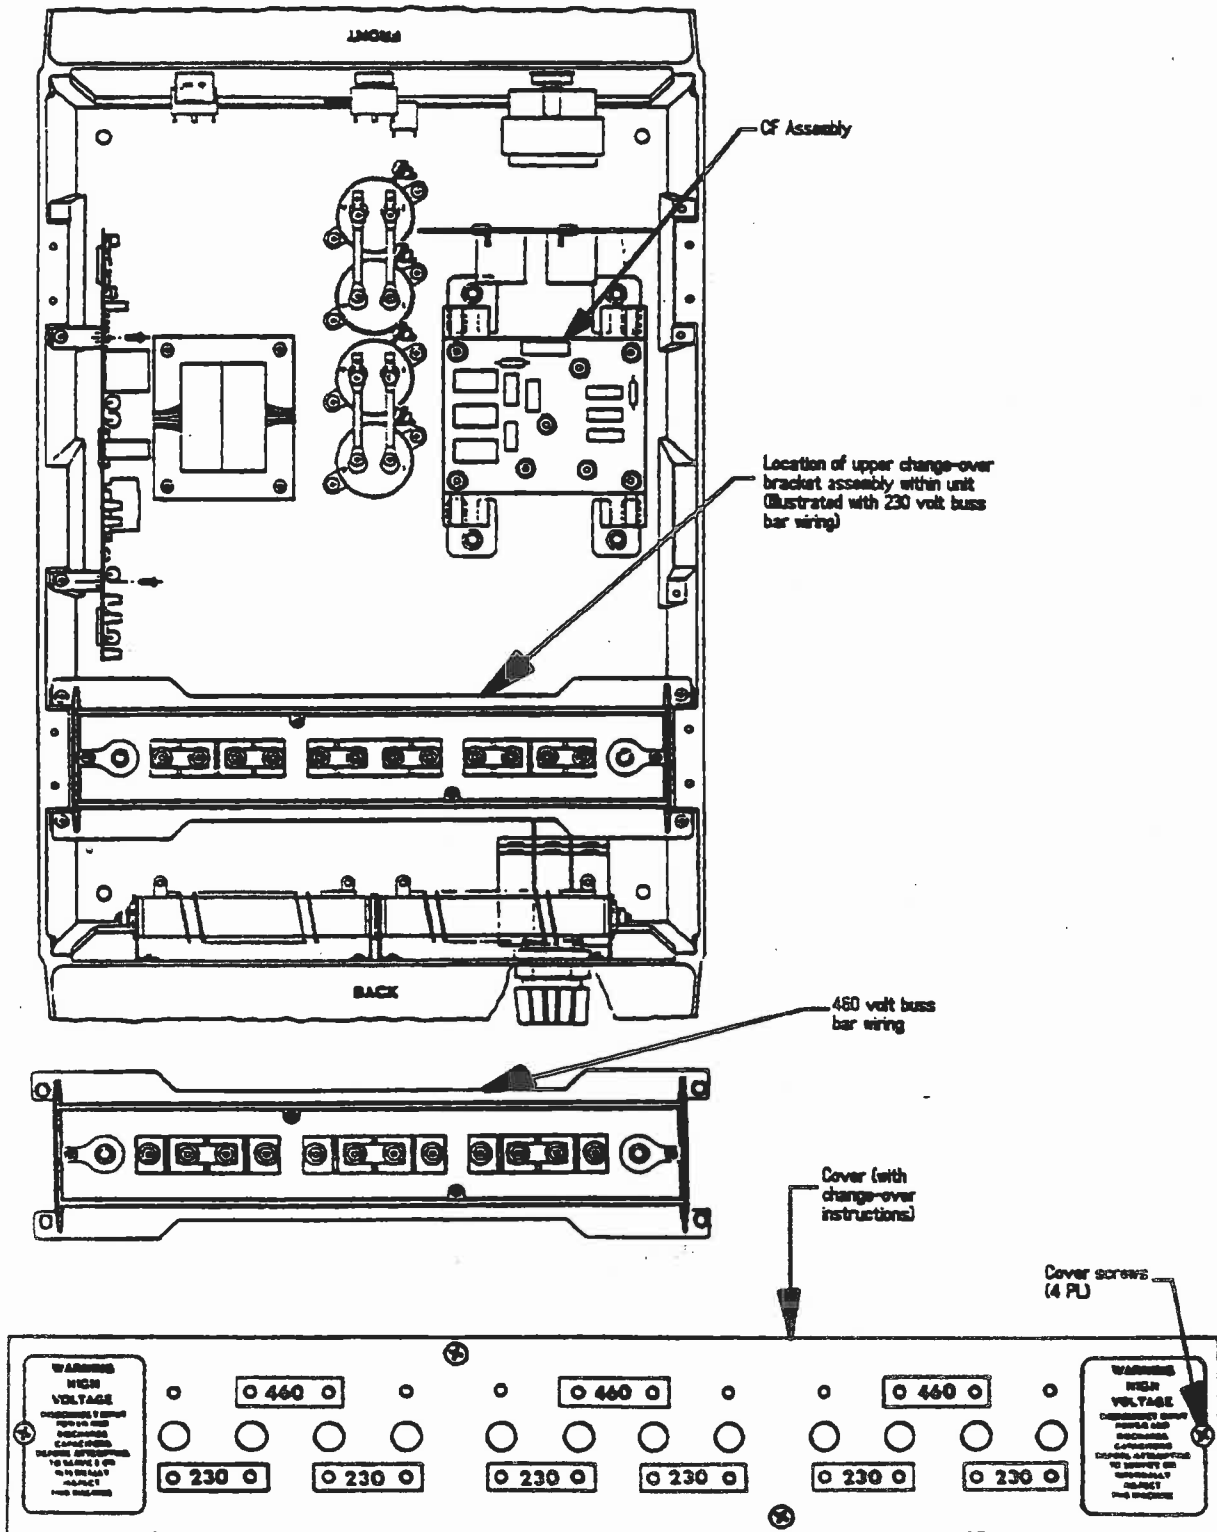

Figure 4, Location 1, Upper Voltage Change-Over
C) Identify the voltage change-over instruction labels for the copper buss bars as shown in Figure 4.
A) Locate and read the instructions located on the cover of the upper change-over bracket assembly (shown in location 1, Figure 4).
B) Locate the C.F. assembly inside the unit as shown in Figure 4. The C.F. assembly can be identified by two aluminum heatsinks which contain three diodes each set beneath a circuit board.